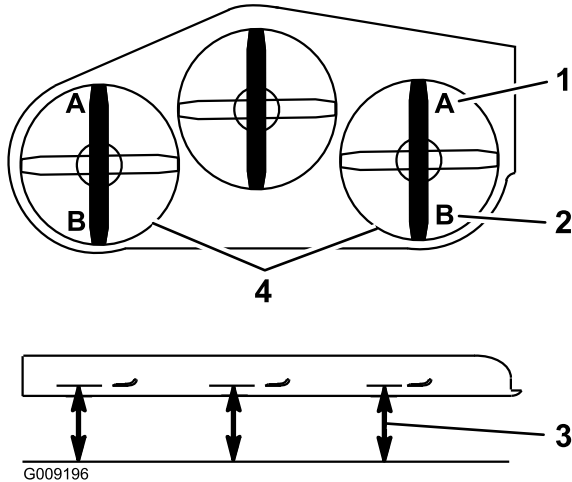

Figure 85
9. On both sides of the deck, measure from the level surface to the front tip of the blade (Position A). The measurement should read 3 inches (7.6 mm) (Figure 85).
- On both sides of the deck, measure from the level surface to the back tip of the blade (Position B). The measurement should read 3 1/4 inches (8.3 cm) (Figure 85).